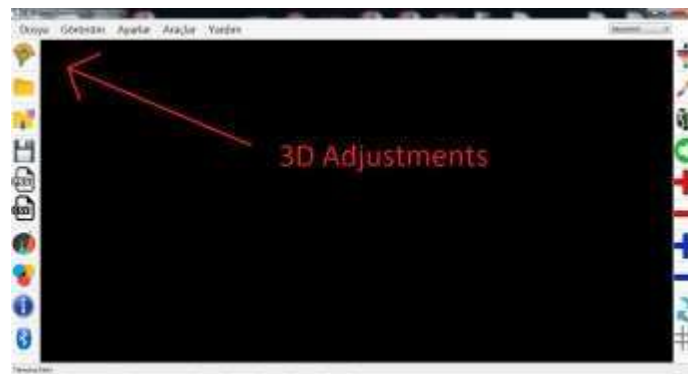

Figure 6
5. TE icons with the help of 3D viewer program as shown in Figure 6 to be made to the display settings window should open.